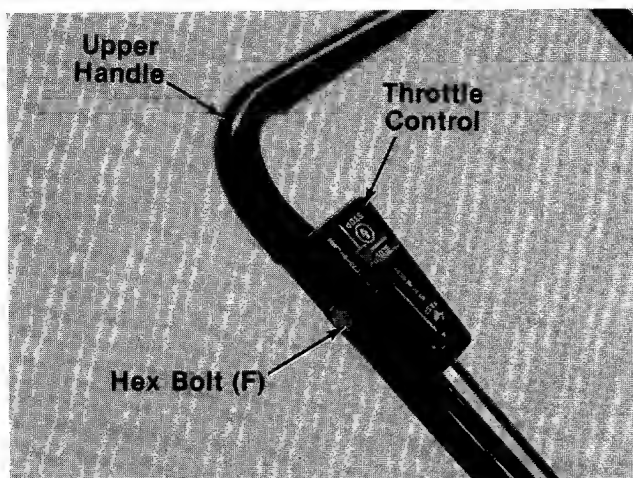

FIGURE 4.
- ← 5. Place the throttle control in position on **right** side of upper handle. Secure with hex bolt (F) and lock nut (G). See figure 4.